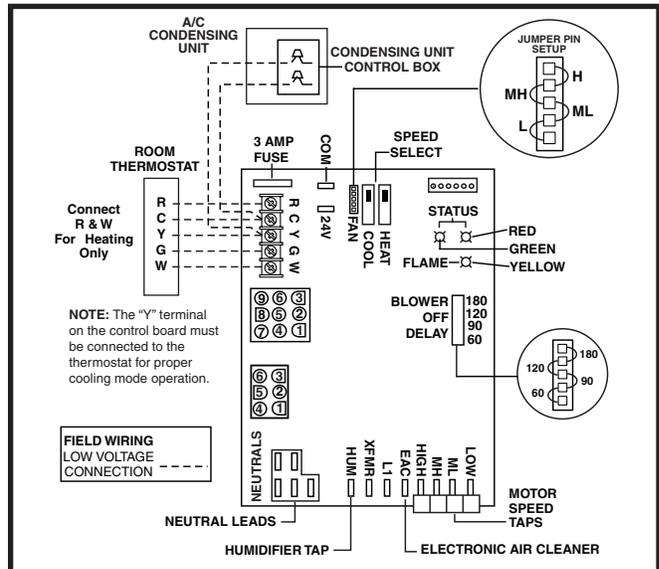
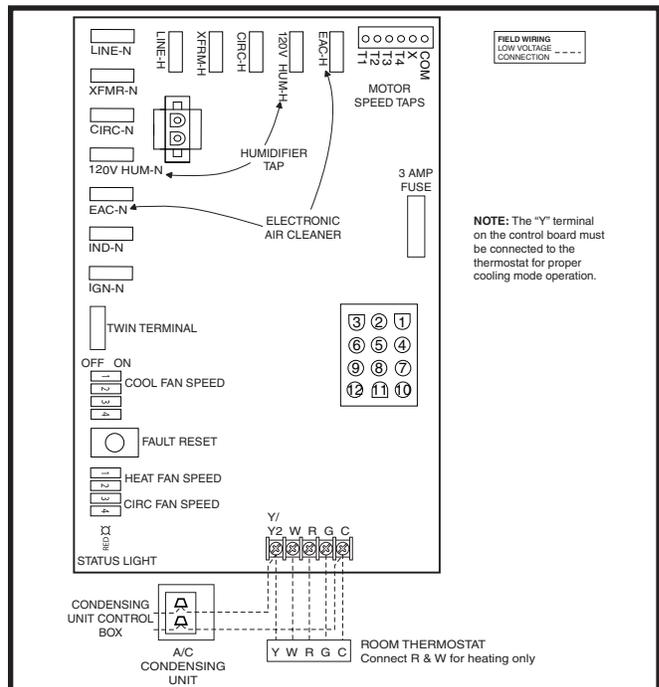

Figure 27. Nordyne/UTEC Low Voltage Field, Four-wire Heating/Cooling Applications
Figure 28. Emerson Low Voltage Field, Four-wire Heating/Cooling Applications
- The thermostat must be installed according to the instructions supplied by the thermostat manufacturer. Low voltage connections (24 VAC) from the thermostat are wired to the terminal strip on the integrated control in the furnace. Figure 27 contains the proper connections for heating only (two-wire) and heating/cooling (four-wire) applications. Recommended minimum wire gauge for thermostat wiring is shown in Table 5 (page 24).
- √ Verify the jumper on the Nordyne/UTEC board or dipswitch on the Emerson board (for fan speed) on the control board. See Figure 27 \(page 25\) and Figure 28 \(page 25\).